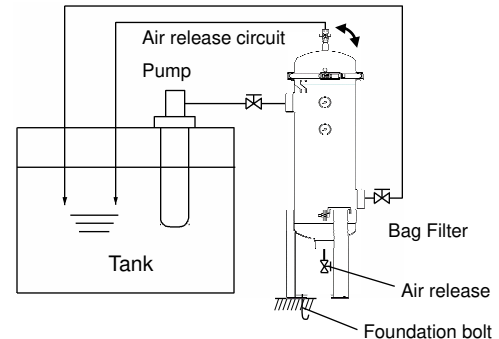

Fig. 1-1 Example of the circulating filter circuit
- ① Use a circuit which does not apply much pressure or load fluctuation to the filter. (Fig. 1-1)